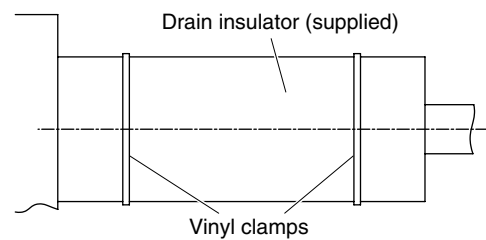

Fig. 3-38
(2) After checking the drainage, wrap the supplied packing and drain pipe insulator around the pipe. (Fig. 3-38)